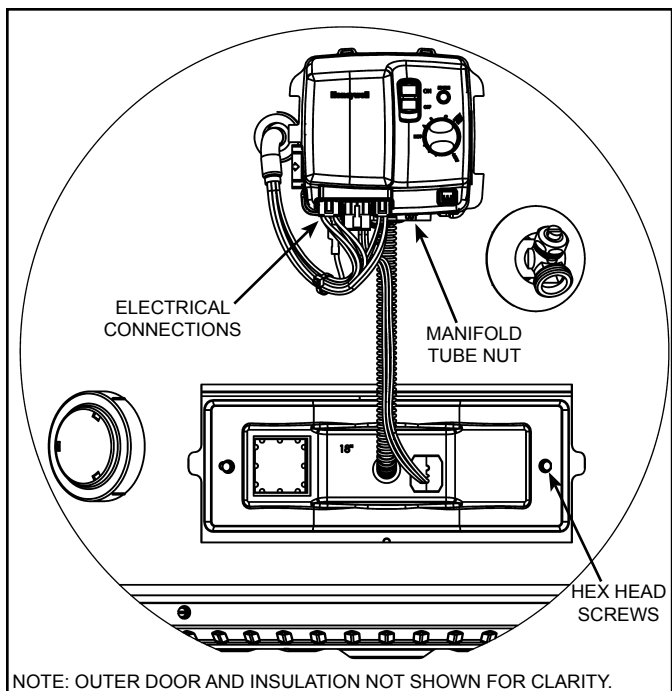

Figure 26
7. Unplug all the electrical connections from the bottom of the gas control valve/thermostat (see Figure 26).
8. Using a 3/4" open end wrench remove the manifold tube from the gas control valve/thermostat (turning counter-clockwise for natural gas, clockwise for L.P.). Grasp the manifold tube and push down slightly to free the manifold tube from the gas control valve/thermostat (see Figure 26).
6. Reconnect the manifold tube to the gas control valve/thermostat (**Note:** Do Not apply any thread sealant at this connection). To prevent any cross threading the manifold tube should be started by hand (turn clockwise for natural gas, counter-clockwise for L.P.). Upon tightening with the fingers and confirming it has not been cross threaded, tighten nut with an 3/4" open end wrench (see Figure 26).